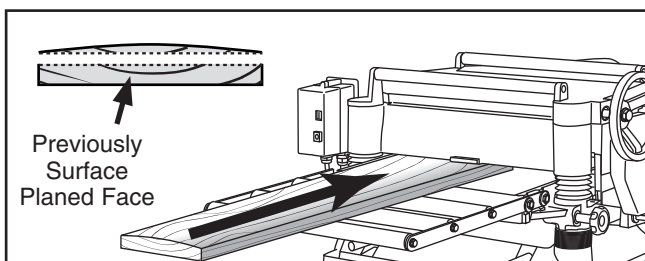

Figure 37. Surface planing on a thickness planer.
2. **Surface Plane on a Thickness Planer:** The opposite face of the workpiece is surface planed flat with a thickness planer (see Figure 37).